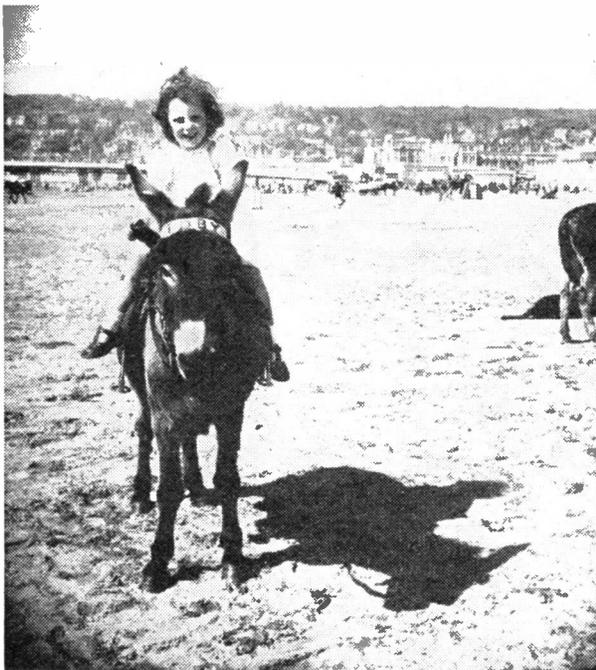

Fig. 2—*The children's friend. Afternoon side lighting and local colour background*
A measure of side lighting also helps to throw up sand formation and ripples into relief instead of producing a dead-pan overall whiteness (Fig. 2).
**LOCAL COLOUR.** Do not forget that, although the family is the main subject, your prints will gain in memory value if some of the local beach background is included — it proves it was a holiday snap at such and such a remembered beach. A not too obtrusive seaside background often adds to the interest of the main subject (Fig. 2).